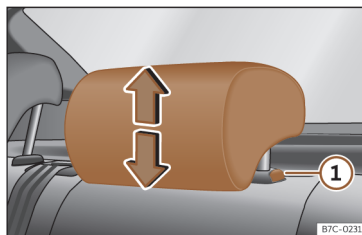

Fig. 86 Rear headrest: adjusting the headrest.
- Grab the sides of the headrests with both hands and push upwards to the desired position. To lower it, repeat the same action, pressing the button on the side ① >>> **Fig. 86**.